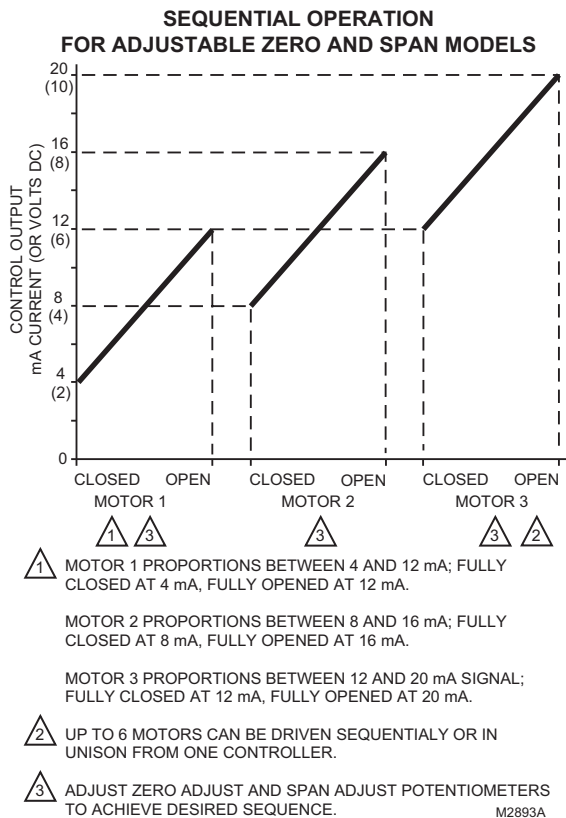

Fig. 11. Sequential operation of motors.
8. For sequential operation, as shown in Fig. 11, repeat the above steps for each motor.